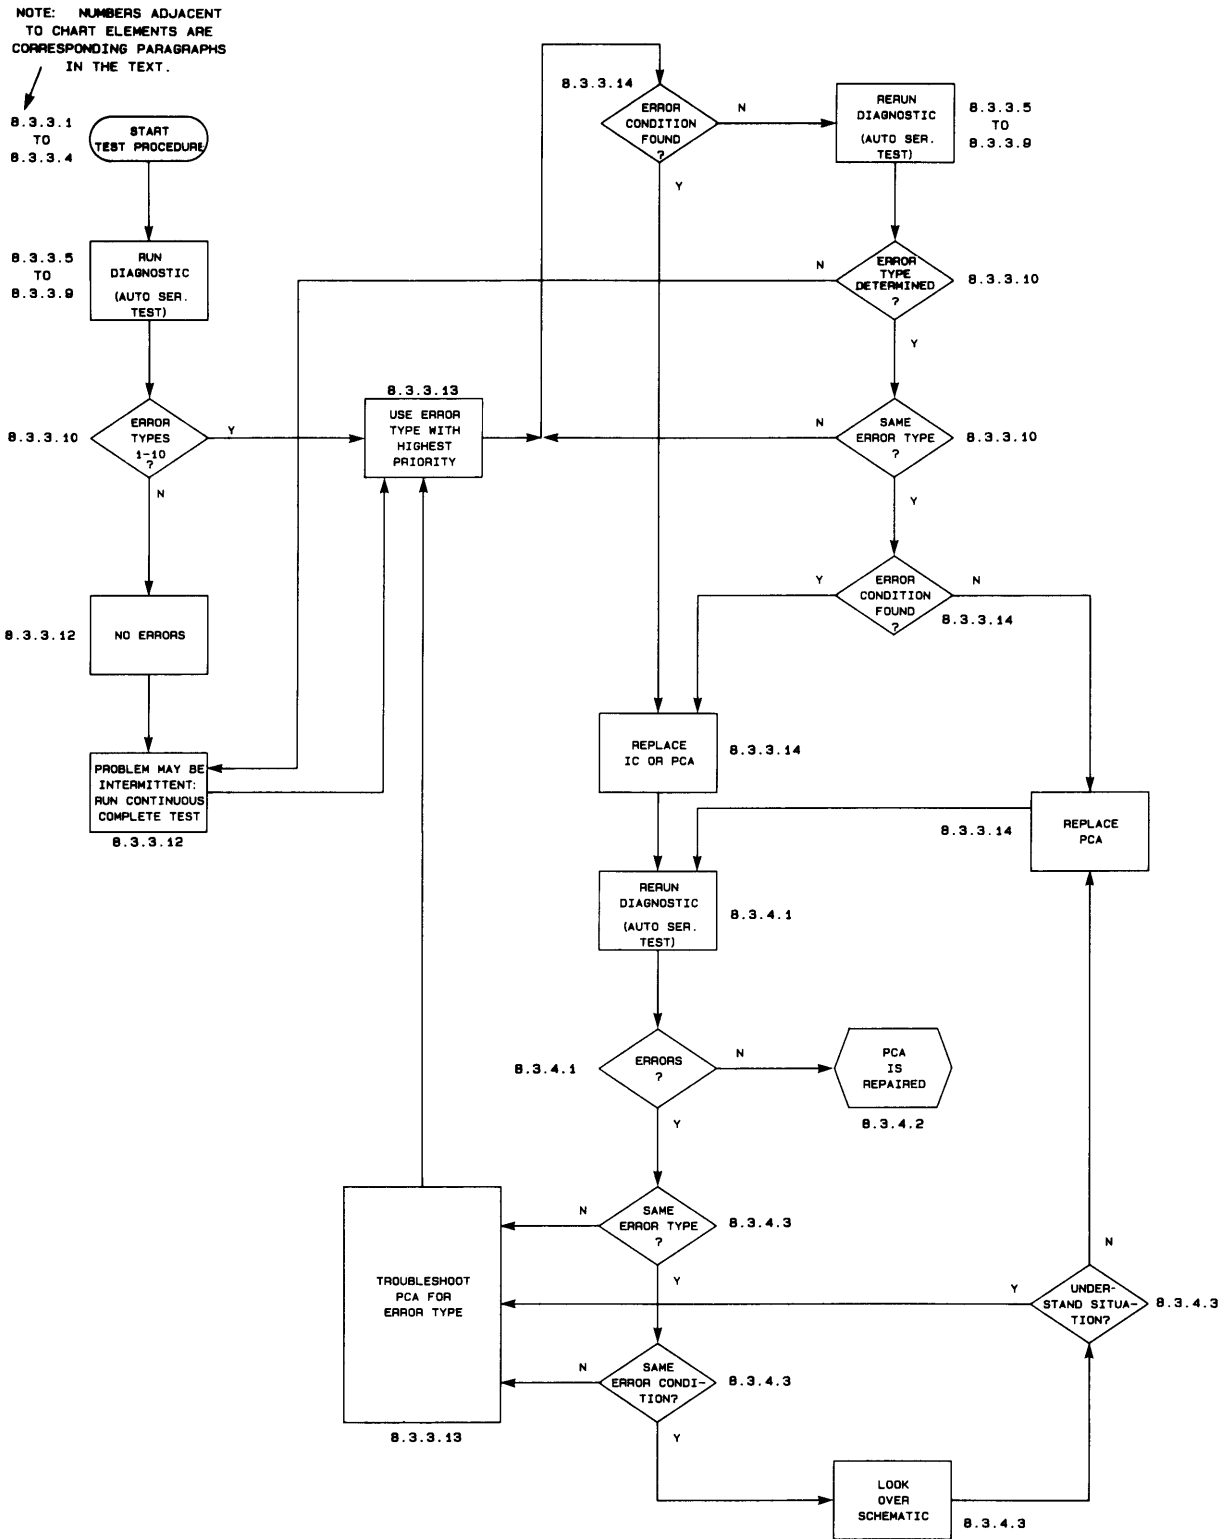

Figure 8-3. General Troubleshooting Flowchart
8.3.3 Diagnostic Testing Procedure. (refer to flowchart in figure 8-3)
- **Refer to the General Troubleshooting Flowchart (figure 8-3).**